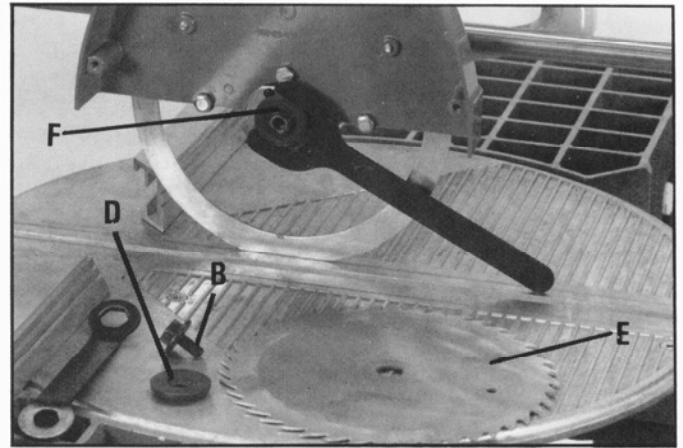

Fig. 51
4. Remove blade screw (B), outside blade flange (D) and blade (E), as shown in Fig. 51. Inside blade flange (F) should remain on saw arbor.